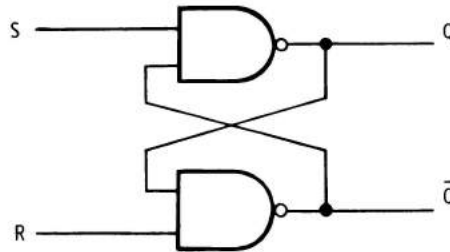

Figure 5-28
18. What type of flip-flop is shown in Figure 5-28?
19. In Figure 5-28, if both inputs are low, what state will the flip-flop be in? What logic levels will appear at the Q and \bar{Q} outputs?
18. A NAND gate latch is shown in Figure 5-28.